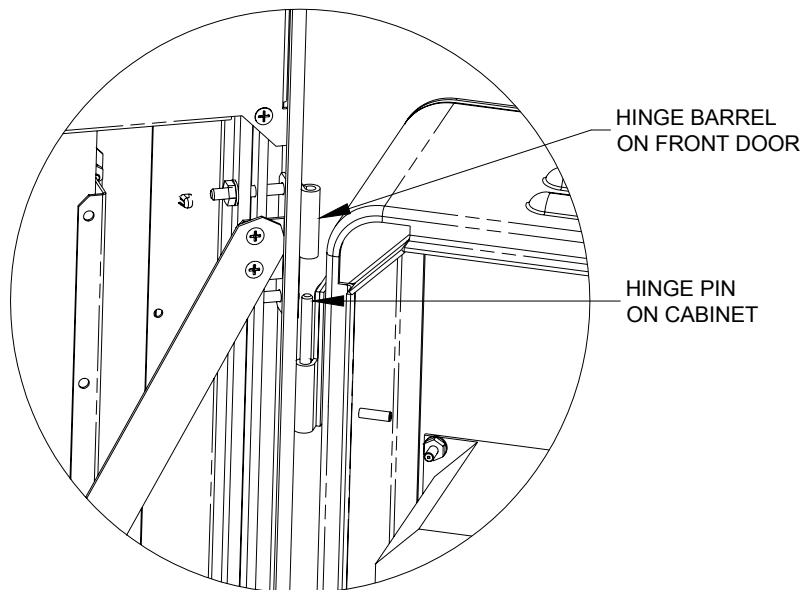

Figure 6-B – Detail View of Top Cabinet Hinge with Front Door Opened
7. The front door is secured using slide hinges, which require no tools to attach. To attach the front door, carefully lift the door and line up the hinge pins on the cabinet with the mating hinge barrels on the front door (see *Figure 6-B*). Then carefully lower the front door.